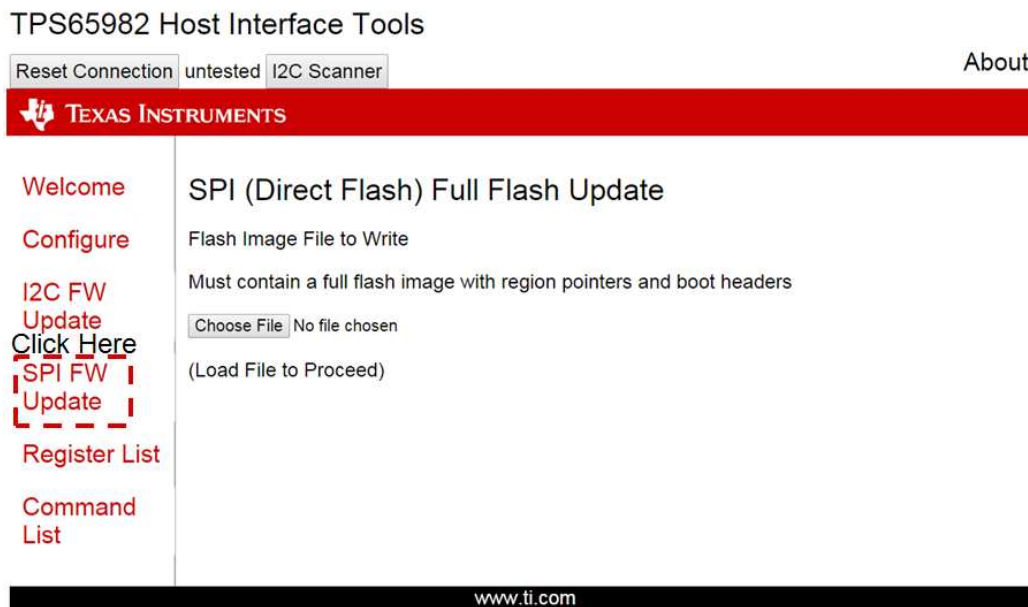

Figure 12. SPI Firmware Update Screen
- Step 5. Click the *SPI FW Update* link on the left side of the GUI (see Figure 12).